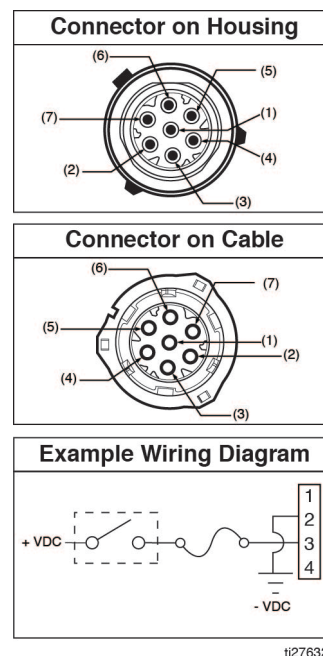

FIG. 4
- See Pin Layout shown in FIG. 4 for proper location in the connector.
Pin and Related Wire Color (FIG. 4)